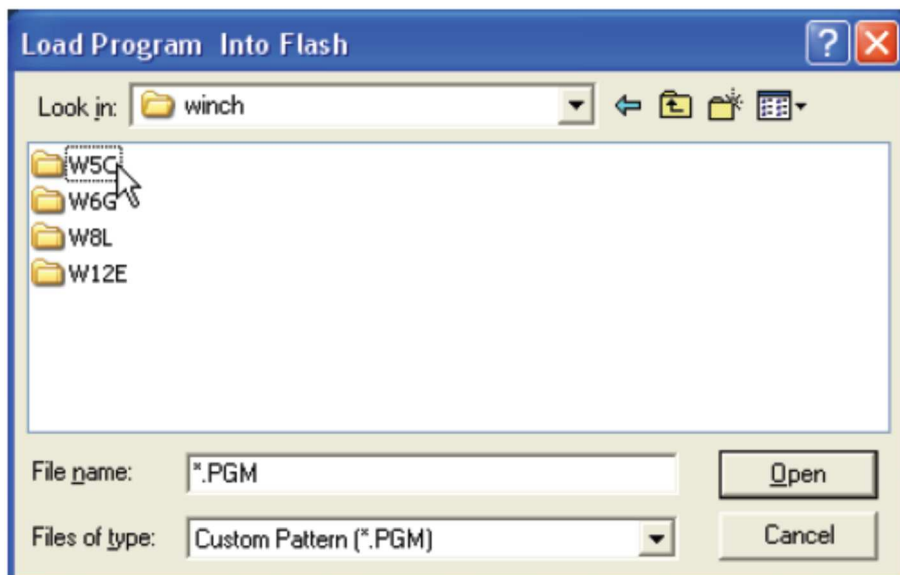

Figure 6 – Selection window
- 10) Click on the “Load Application” button as shown in Figure 5 and navigate to the correct program folder on the USB drive or in C:\WINCH if the software was downloaded from the Allied website. Programs are winch model specific and will be found in a directory named after the winch model in question as shown in Figure 6. Note that the only files that will be shown for selection are the ‘.pgm’ files.